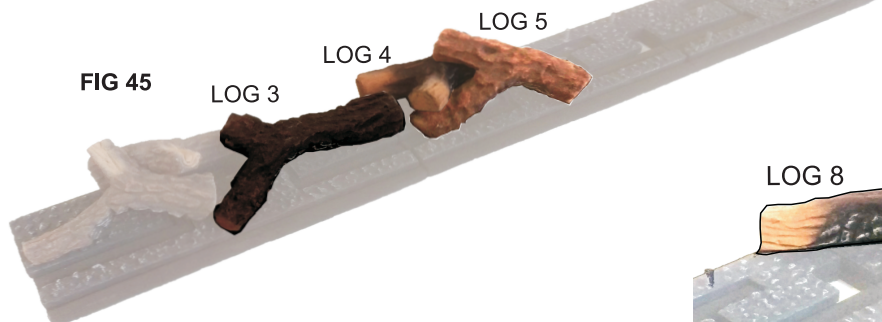

FIG 45
3. Lay Firewood pieces 3,4 and 5 in position shown in **FIG 45**.